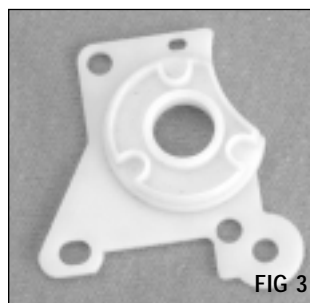
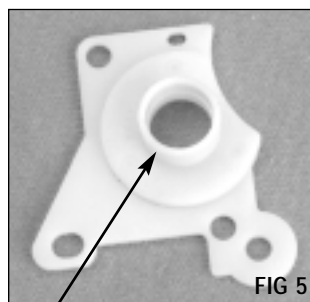
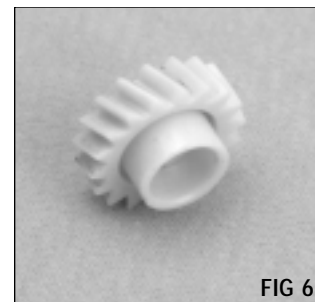

FIG 3
FIG 5
FIG 6
The stabilizer has undergone at least three modifications that we have been able to document, as shown in FIGS 3, 4 and 5. The stabilizer shown in FIG 3 is most commonly found in the OEM and remanufactured cartridges we use in the cartridge development lab and is used in combination with the mag roller drive gear shown in FIG 6. The stabilizer shown in FIG 5 is another version, which is used with a different style gear that does not incorporate a raised collar in the center of the gear.
When assembling BX/BXII cartridges, make sure that you have the correct combination of gear and stabilizer; otherwise, the end plate will not fit properly over the end of the mag roller and hopper. The stabilizers shown in FIG 3 and 4 should be used with the gear shown in FIG 6. The stabilizer shown in FIG 5 should be used with the gear that does not incorporate a raised collar in the center of the gear (not shown in photo). The end plate may be used with either combination of stabilizer and gear.
*Current style mag roller drive gear should be used in combination with the stabilizer shown in FIGs 3 and 4.*